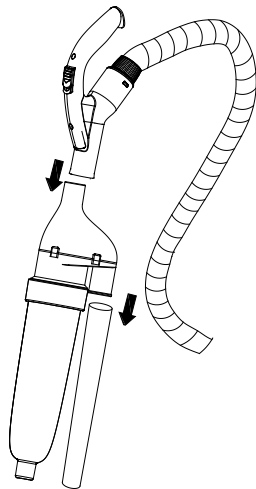
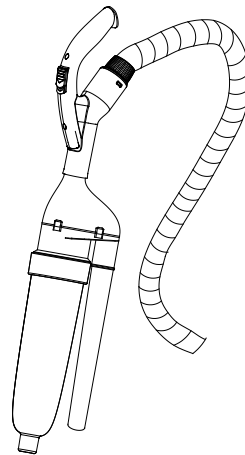

Fig.02
Fig.03
1. Connect the cyclonic attachment to the flexible hose handle and telescopic tube. Then can use it for cleaning job. (Fig.02, Fig.03)